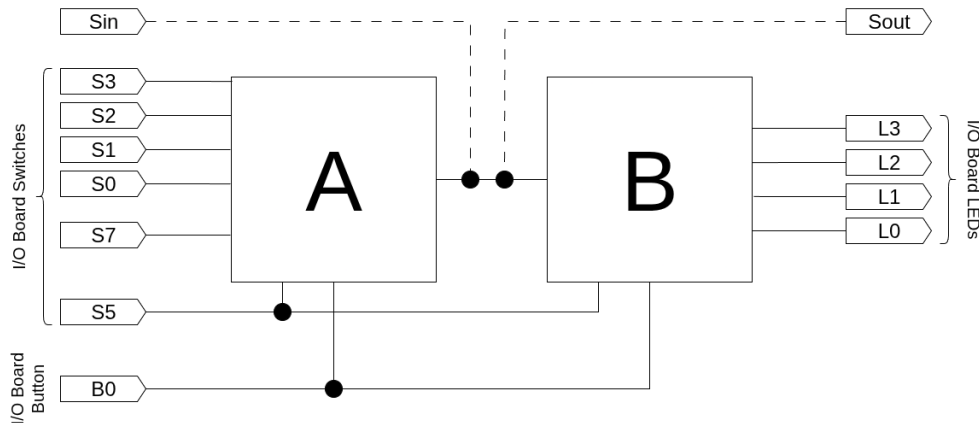

Figure 1: System-level circuit topology depicting inputs, outputs and subsystems A and B.
- The overall circuit has an input processing subsystem followed by a serial addition subsystem (see Fig. 1).
- The input processing subsystem (block A in Fig. 1) employs 4-bit parallel load and serial shift operations to enter the 16-bit input as four batches of 4 bits. The user sets the mode selector switch $S_7 = 0$ to enable parallel load, then sets the switches $S_3 - S_0$ corresponding to the 4-bit binary version of N_0 , and provides a clock pulse by pressing and releasing the B_0 button (on the IO board). This loads the first digit N_0 into the system. The user then sets the mode selector switch $S_7 = 1$ to enable serial shift and provide four clock pulses by pressing the button B_0 four times. This completes the serial shift for the first digit N_0 . This process (i.e., parallel load and serial shift) is then repeated for other digits N_1, N_2, N_3 .
- The serial addition subsystem (block B in Fig. 1) takes one bit at a time from the input processing subsystem and adds this incoming bit (either 0 or 1) to an accumulated sum. Therefore, the serial addition subsystem may contain an adder to perform the addition and a storage element to store the accumulated sum.
Your task is to design the above system and verify its functionality by constructing the circuit on breadboard. You can only use logic ICs provided in your CSSE2010/7201 lab kit and the overall circuit can be implemented with a total of 4 logic ICs. You will be assessed based on a Blackboard submission followed by a practical demonstration. The Blackboard submission includes several questions which require you to provide logic diagrams for subsystems A and B and a schematic diagram for the overall design. Prior to attempting circuit construction, you may optionally simulate your design in Logisim to verify its functionality. However, no marks will be awarded for Logisim simulations. If you don't achieve a fully functional circuit, for the practical demonstration, you have the option to demonstrate the functionality of the subsystems A and B separately using the intermediate inputs and outputs indicated in dash lines in Fig. 1.
Review the task brief, Fig. 1 and any relevant course content. For each subsystem shown in Fig. 1, mention the combinational/sequential circuit blocks required to implement the given functionality and identify the corresponding logic ICs from your lab kit. When mentioning the circuit blocks, your answer must include specific details about input sizes and number of blocks needed. E.g., three 2-input NAND gates, one 2:4 decoder etc.
Provide **logic diagrams** for each of the subsystems using the circuit blocks identified above. Logic diagrams can be either hand-drawn or electronically produced and must fit within the space provided below. Logisim screenshots are not accepted as Logic diagrams. All inputs and outputs must be labeled with the same names as shown in Fig. 1 and the diagrams must adhere to conventions taught in CSSE2010/7201.